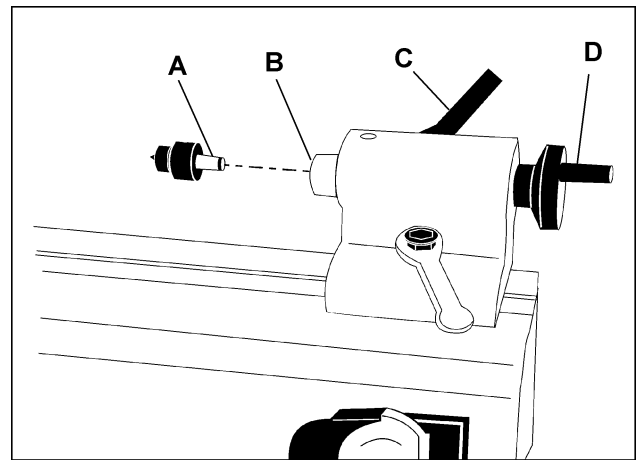

Fig. 7
1. Clean the tapered shank of the live center (A, Fig. 7) and the inside of the quill (B, Fig. 7) on the tailstock.
3. To remove the live center, loosen lever (C, Fig. 7), and turn handwheel (D, Fig. 7) counter-clockwise until the live center ejects from the quill.